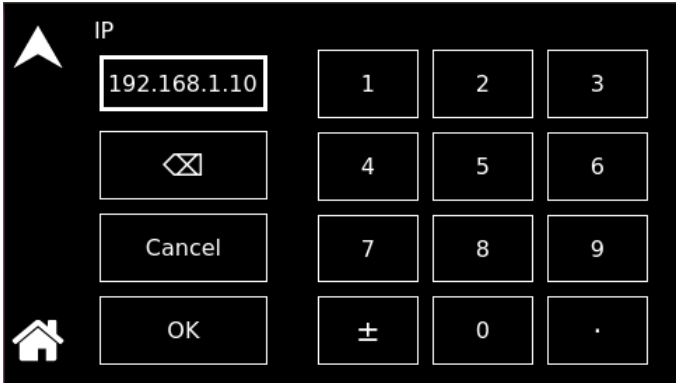

Figure 8-167. LAN Screen - IP Address
- **IP Address:** Sets the static IP address for the unit. When DHCP is turned off in the LAN CONFIG sub-menu, AUTO IP is selected, set the IP address to all zeros so that the IP address would be requested from the network; when DHCP is selected, the IP address is assigned by the network DHCP server. Refer to Figure 8-167.